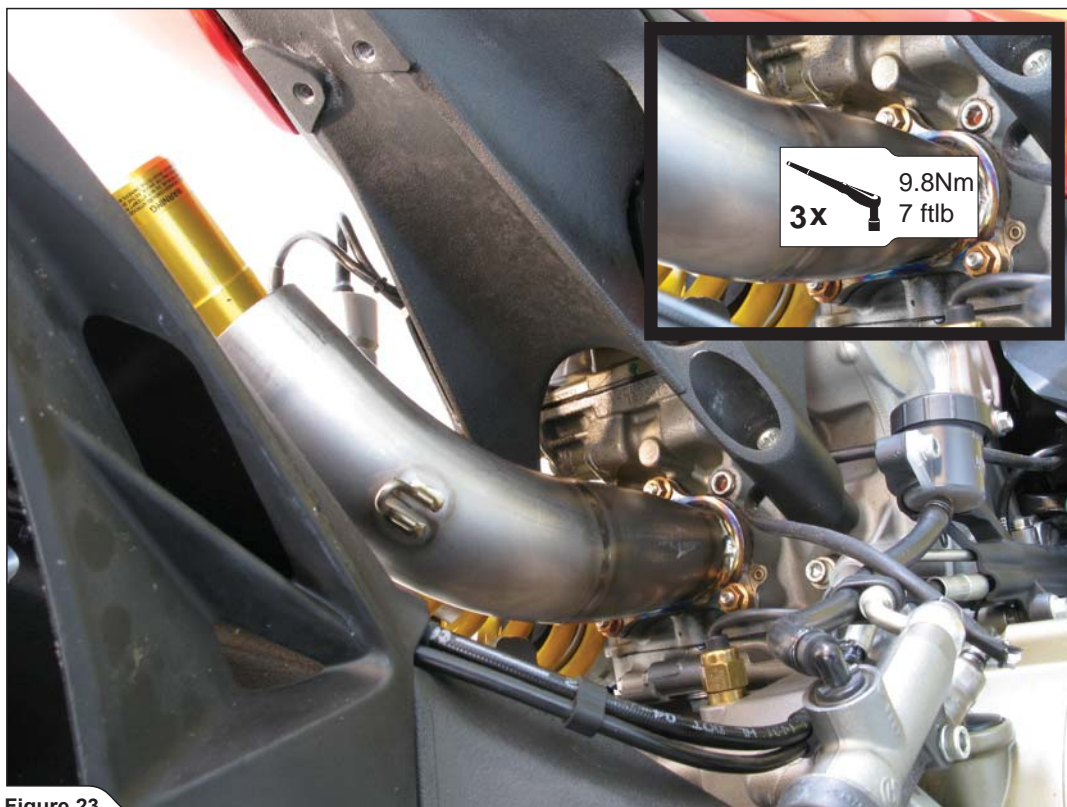

Figure 23
3. Tighten the rear header onto the cylinder head, using stock nuts (**Figure 23**).